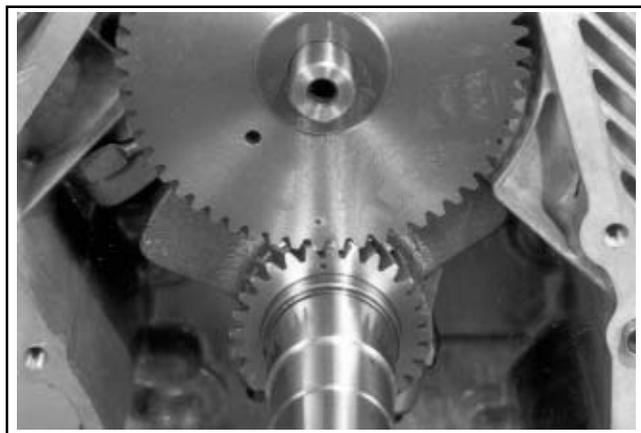

Figure 11-13. Aligning Crankshaft and Camshaft Timing Marks.
- Turn the governor cross shaft clockwise until the lower end of the shaft contacts the cylinder. Make sure the cross shaft remains in this position while installing the camshaft. See Figure 11-13.
- Slide the camshaft into the bearing surface of the crankcase, positioning the timing mark of the camshaft gear at the 6 o'clock position. Make sure that the camshaft gear and crankshaft gear mesh, with both timing marks aligned. See Figure 11-13.
4. Make sure the end of the governor cross shaft is lying against the bottom of cylinder 1 inside the crankcase. See Figure 11-13.